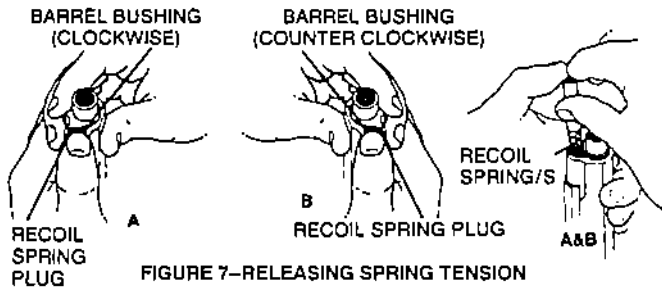
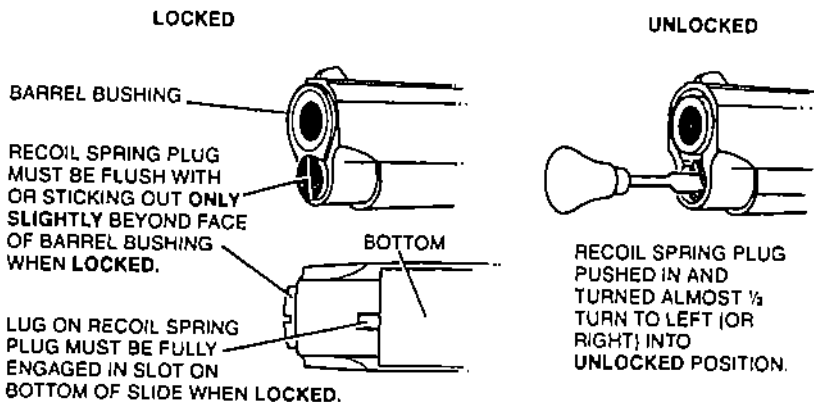

FIGURE 7—RELEASING SPRING TENSION
FIGURE 8—OFFICER'S ACP RECOIL SPRING PLUG LOCKED AND UNLOCKED
3. (A) Push slide back about ¼ inch, press down on recoil spring plug (located just below muzzle) and at same time rotate barrel bushing **clockwise** about ¼ turn, using barrel bushing wrench if necessary; this will free plug and recoil spring. Keep pressure on plug to prevent it being ejected by the spring, then allow plug and spring to gradually extend out of the slide. (See Figure 7).
3. (B) Press down on recoil spring plug (located just below muzzle) and at same time rotate barrel bushing **counterclockwise** about ¼ turn (See Figure 7); then pull bushing forward and out. Using a screwdriver, push the recoil spring plug in and turn it about ½ turn to left or right. (See Figure 8). Control the spring force as you carefully allow the plug and two recoil springs to extend out of the slide. Remove plug from springs. (See Figure 7).
Install the barrel bushing over the recoil spring plug and into the slide. Press down on the recoil spring plug and at the same time rotate the barrel bushing clockwise about a ¼ turn to lock it over the plug. (See Figure 7, page 34). Finally, while the pistol is still empty (unloaded), check that the recoil spring plug is correctly seated and locked. To do so, (See Figure 8, page 36) note that the recoil spring plug must be flush with, or protruding only slightly beyond, the face of the barrel bushing when the screwdriver slot is vertical.
7. Clean rear face of barrel and face of slide, using a small toothbrush. On Officer's ACP models, also clean the lug on recoil spring plug and its locating slot in lower part of the receiver. (See Figure 8).